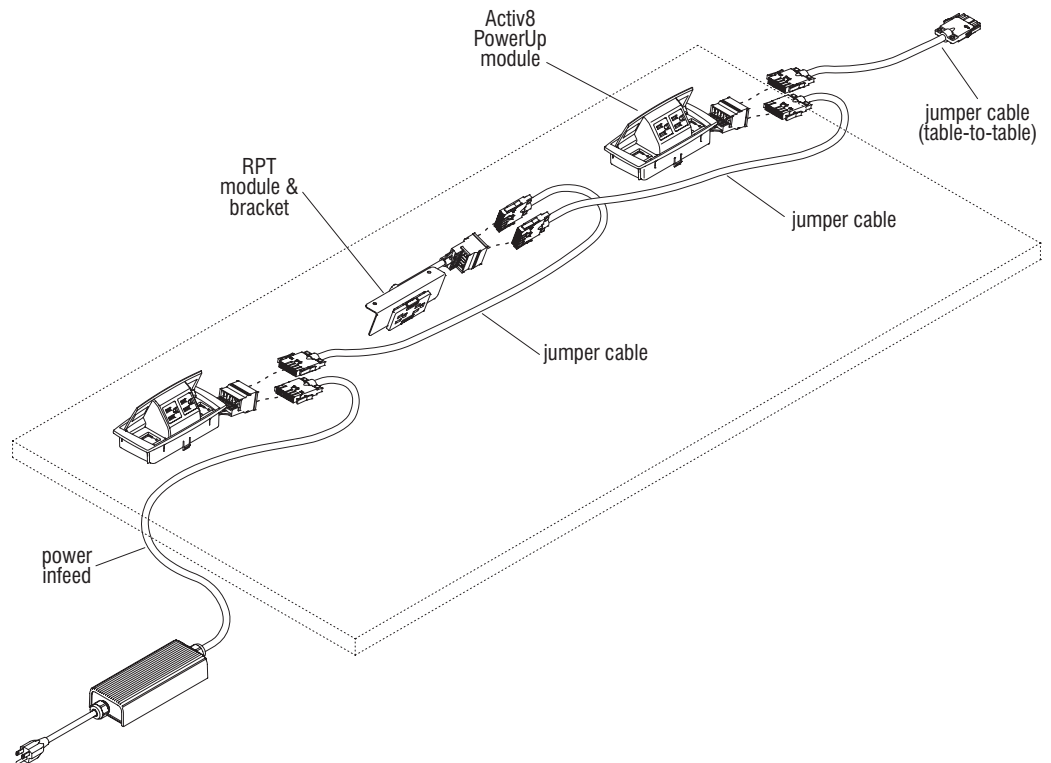

Figure 6 - Activ8 Power Components
2. PowerUp module (shown) or Villa power modules may be installed if specified. PowerUp module snaps into the worksurface at the top and Villa installs with screws from underneath. For Villa module installation, refer to instructions provided with the unit (Figure 6).
3. Jumper cables come in various sizes and connect Activ8 components between RPT modules, PowerUp & Villa modules and between tables. Jumper cables are keyed and can only be plugged in one way (Figure 6).